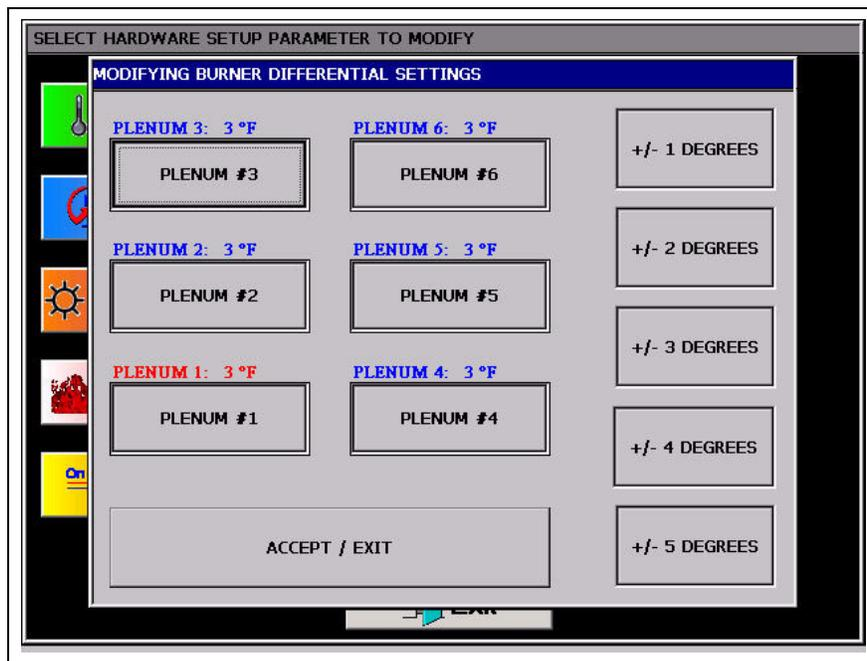

Figure 6I
8. **Differential:** Touching the Differential button will display the Modify Burner Differential Settings screen. \(See Figure 6I on Page 31.\) Adjusting the burner differential settings allows the operator to keep the plenum temperature within a certain range. For example: If you have the temperature set point at 180° and you select $\pm 3^\circ$ as the burner differential, then the burner will switch to low heat at 183° and back to high heat at 177°. To modify a burner differential setting first touch the Plenum button you wish to modify, then select one of the five (5) differential setting button on the right side of the Modify Burner Differential Settings screen. Touch the Accept/Exit button to save settings and return to the Select Hardware Setup Parameter to Modify screen. **NOTE:** Tower dryer only have plenum #1.